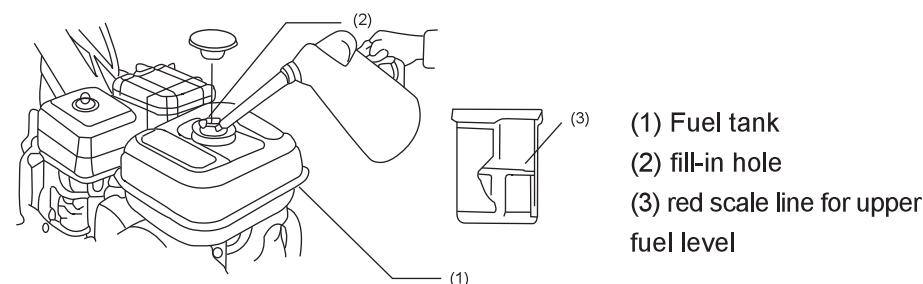

Figure 2-2
2.2 Check fuel oil level: (Refer to Figure 2-2)